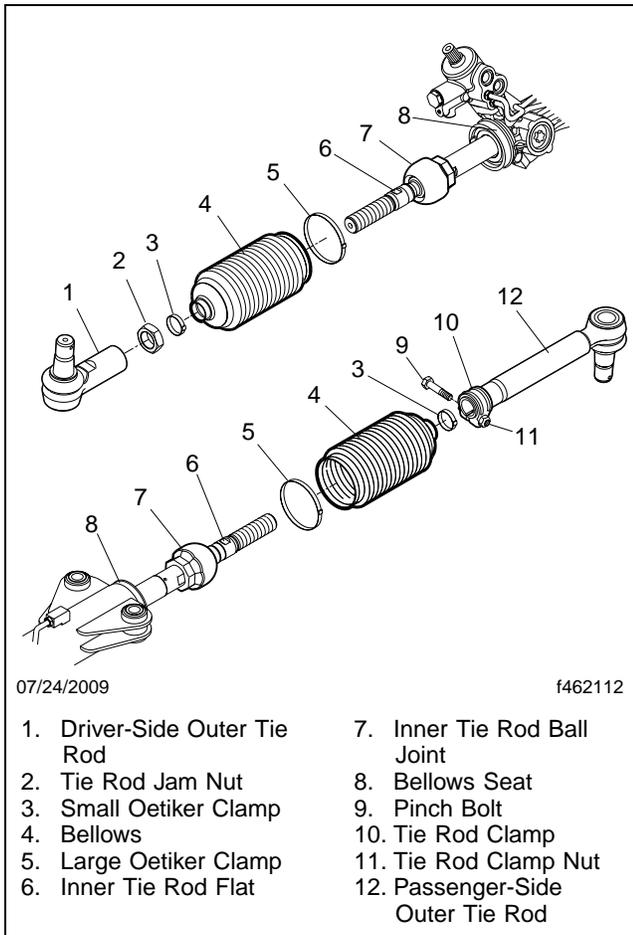

Fig. 21, Tie Rod and Bellows Assembly
- Disconnect the outer tie rods from the inner tie rods. If necessary, use a backup wrench on the inner tie rod flat (**Fig. 21**, Item 6) to turn the inner tie rod.
- 17.1 Loosen the driver-side tie rod jam nut. If necessary, hold the inner tie rod in place with a backup wrench on the inner tie rod flat (**Fig. 21**, Item 6).